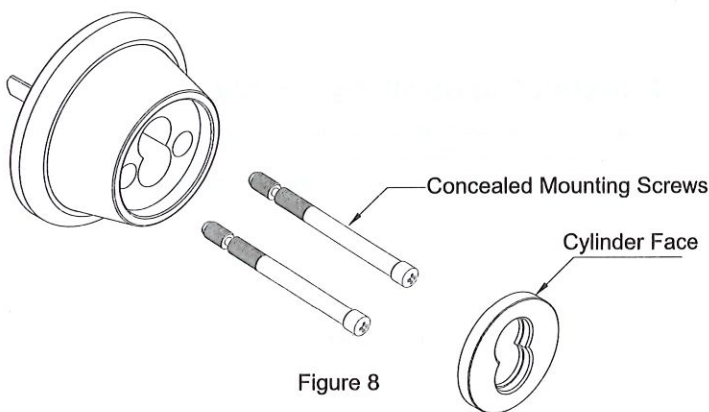

Figure 8
- Insert concealed mounting screws and tighten. See Figure 8.